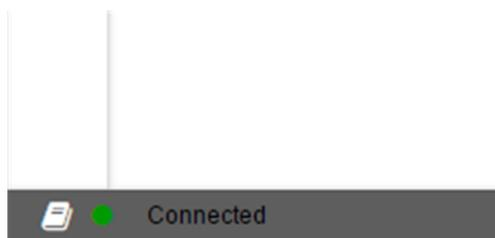

Figure 4. BOOSTXL-DRV8304x EVM GUI (COM Opened)
Step 6. After the GUI connects, the status shown in Figure 4 is displayed.